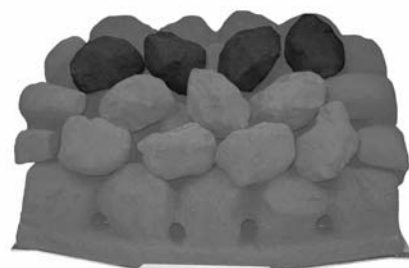

Fig. 22
7. Lay another row of four coals on the next row up, again making sure all the gaps are even (Fig. 22).